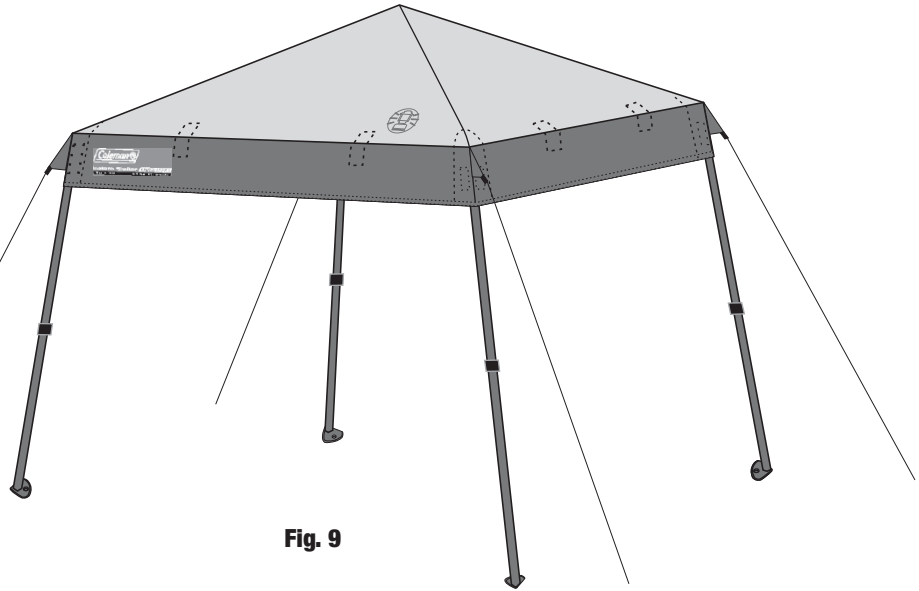

Fig. 9
- Attach and stake out guylines. (Fig. 9 & 9A)